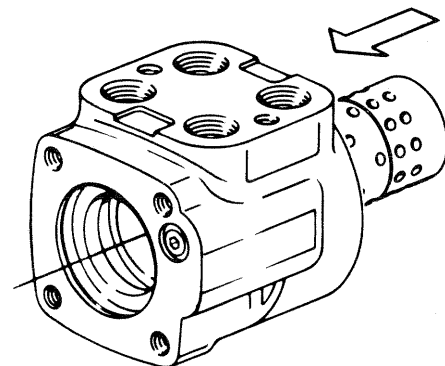

Figure 16
- 11 Position the spool and sleeve assembly so that the splined end of the spool enters the 14 hole end of housing first, see Fig. 16.